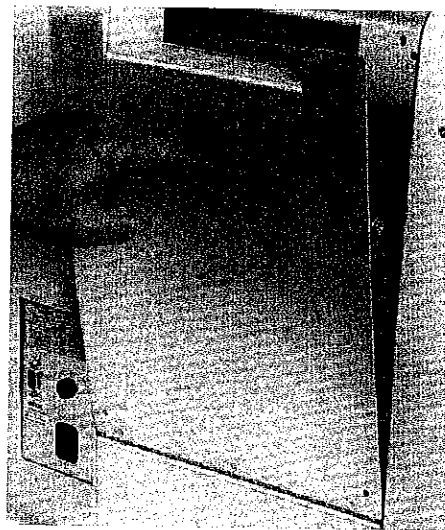

Figure 8: Opening the Back Cover
1. Slide the back door spring latch downward to release it. Open the door downwards as shown in Figure 8.